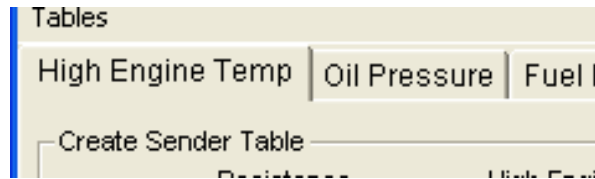

Figure 53 – Analog Type Tab in Utility
1. Open up the Utility and click on the sender type tab. In Figure 53 the High Engine Temp tab is selected.